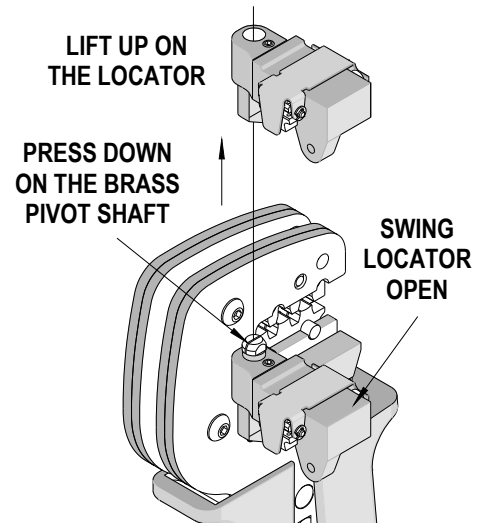

Figure 5
3. Firmly press down on the brass pivot shaft with your thumb, while pulling the locator up. Slip the locator off the top of the brass pivot shaft. See Figure.5.